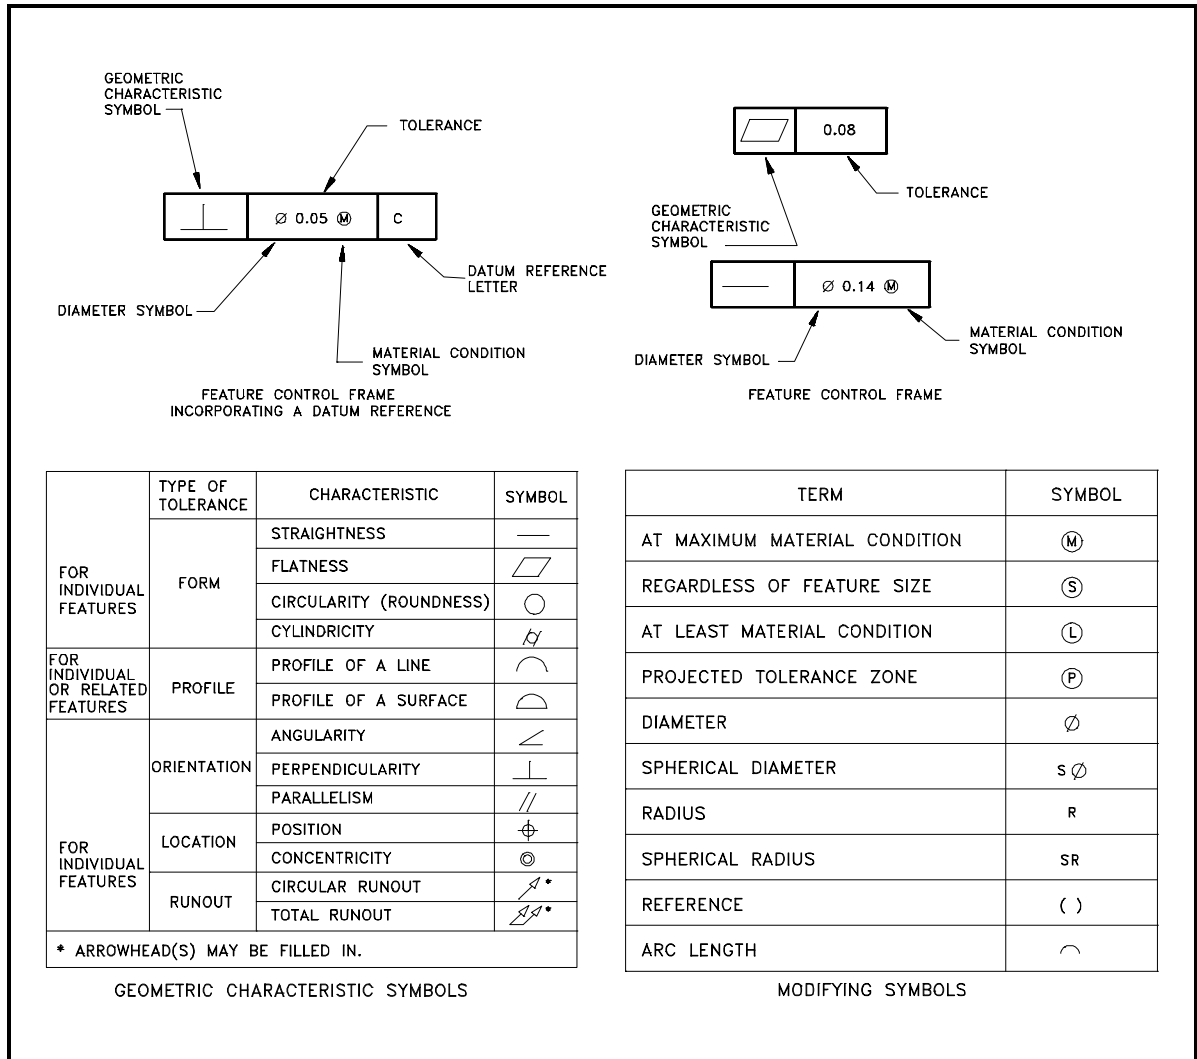
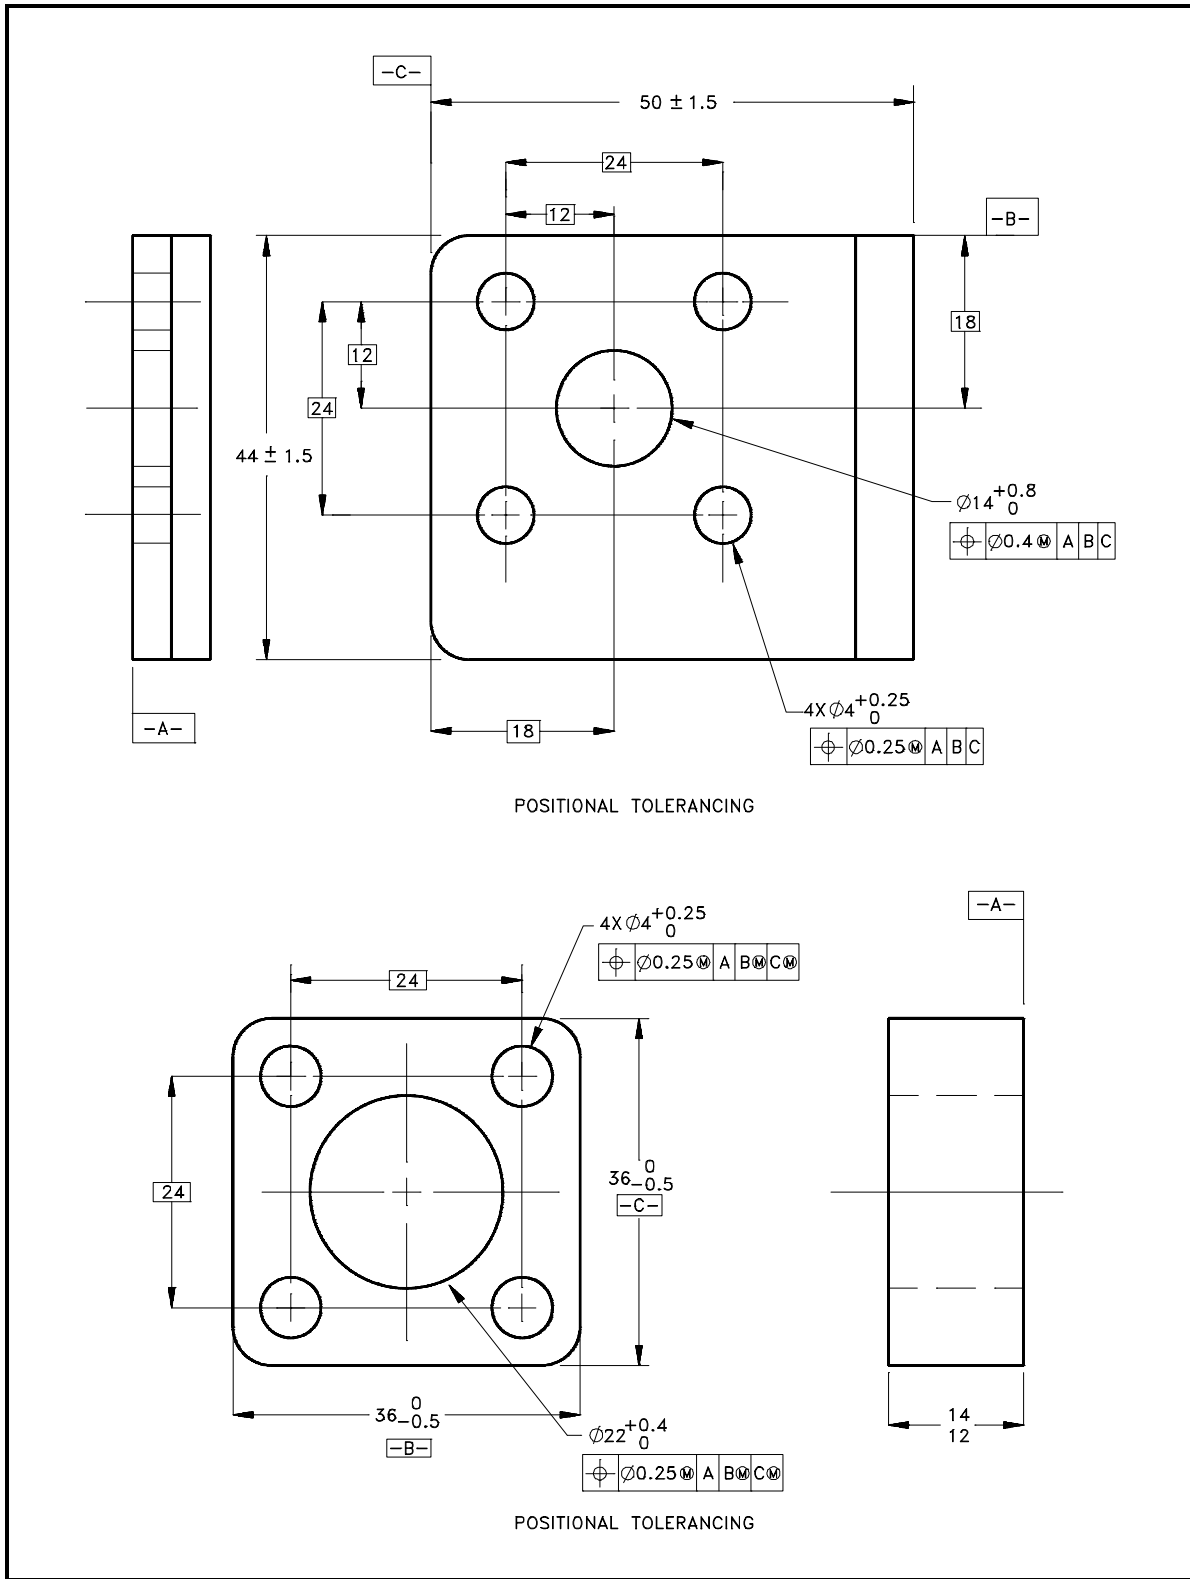

Figure 6 Symboly Used in Tolerancing Drawings
Figure 7 Examples of Tolerance Symbolism
The last method is to state the tolerance for a specified dimension with the measurement. This method is usually used in conjunction with one of the other two tolerancing methods. This type of notation is commonly used for a dimension that requires a higher level of accuracy than the remainder of the drawing. Figure 6 provides several examples of how this type of tolerancing notation can appear on a drawing.
Tolerances are applied to more than just linear dimensions, such as 1 ± 0.1 inches. They can apply to any dimension, including the radius, the degree of out-of-round, the allowable out-of-square, the surface condition, or any other parameter that effects the shape and size of the object. These types of tolerances are called geometric tolerances. Geometric tolerances state the maximum allowable variation of a form or its position from the perfect geometry implied on the drawing. The term geometry refers to various forms, such as a plane, a cylinder, a cone, a square, or a hexagon. Theoretically these are perfect forms, but because it is impossible to produce perfect forms, it may be necessary to specify the amount of variation permitted. These tolerances specify either the diameter or the width of a tolerance zone within which a surface or the axis of a cylinder or a hole must be if the part is to meet the required accuracy for proper function and fit. The methods of indicating geometric tolerances by means of geometric characteristic symbols are shown in Figure 6. Examples of tolerance symbology are shown in Figure 7.
1. Using Figure 6, the straight line in the geometric characteristic box indicates "straightness." This implies that the surface must be straight to within 0.02 inches.
1. Using Figure 6, the circle with two parallel bars in the geometric characteristic box indicates "Cylindricity," or how close to being a perfect cylinder it must be (in this case 0.25 inches).